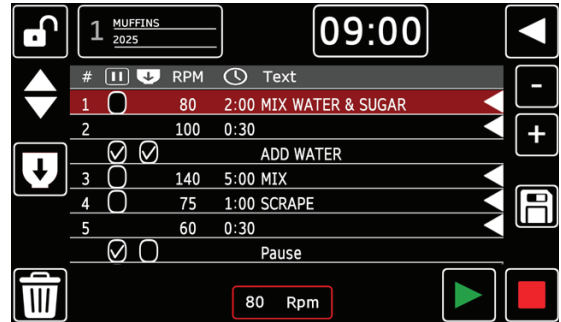

Figure 16-1.
1. Select the line number in the # field column. The edit line menu will display. (Figure 16-1).
4. Select the green “play” button to start the recipe. (Figure 16-1).